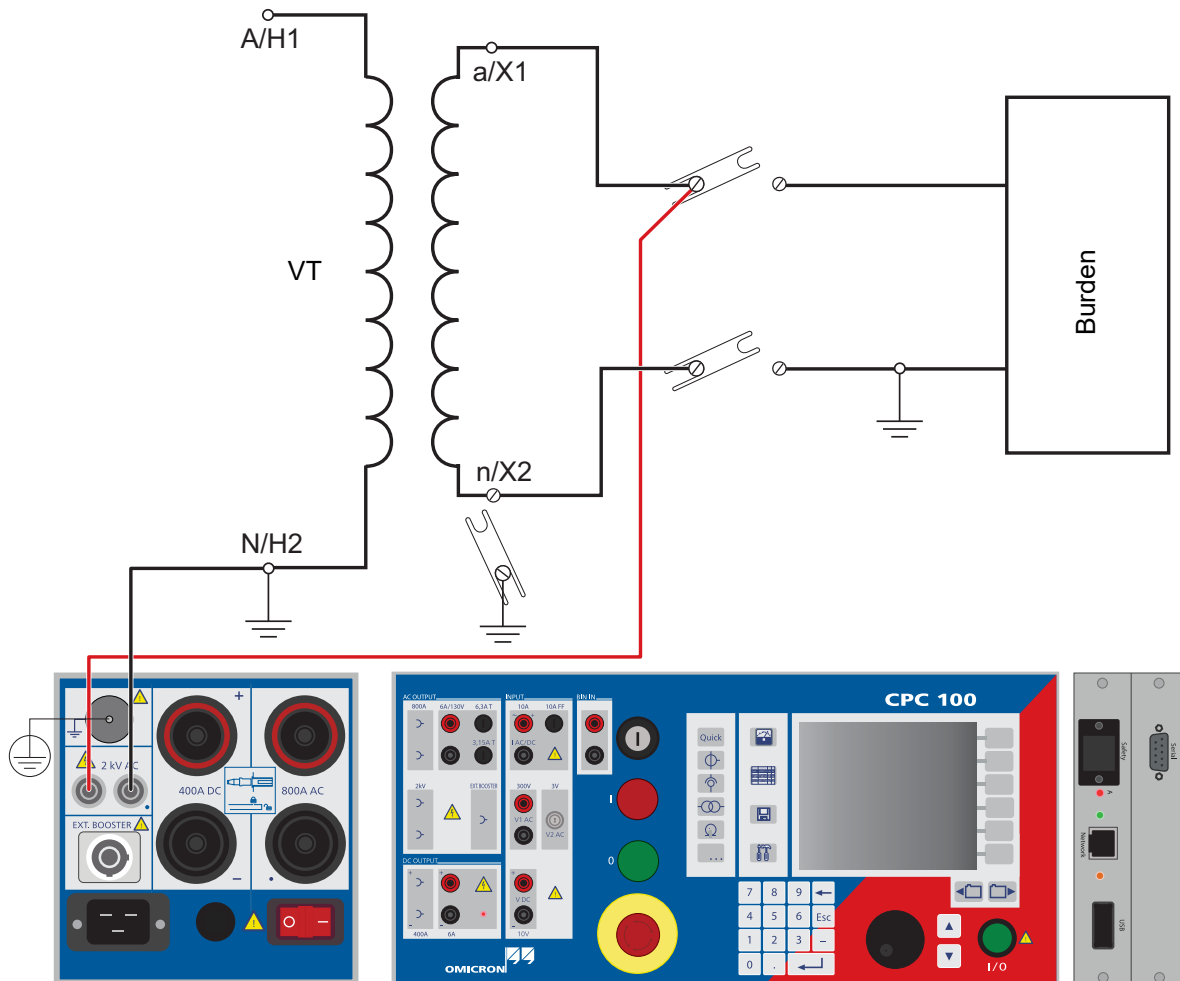

Figure 5-6: Setup for a voltage withstand test
To do so, disconnect the burden. As shown in Figure 5-6, connect the 2kV output socket without point to the transformer's secondary (a) winding connection, and the output socket marked with a point to earth and the transformer's primary connection (N).